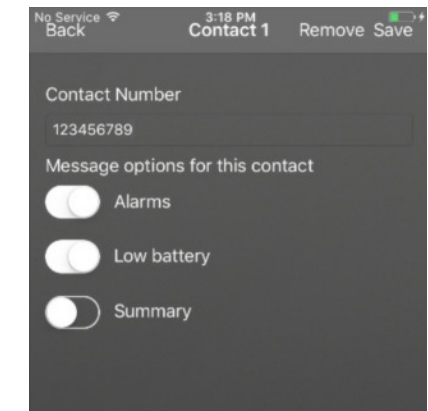

Fig. 7
9. Contact Information – Input up to three contact numbers that this ELSMS device should notify and select which messages they will receive (See Fig. 7).